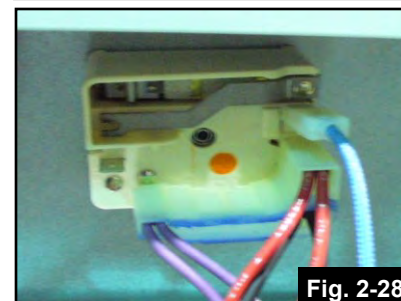

Fig. 2-28
**NOTE:** Some stoves may have the H1 & H2 terminals of the temperature control dial covered by a white insulator. This insulator must be removed completely to connect the relay wire. (Fig.2-28)